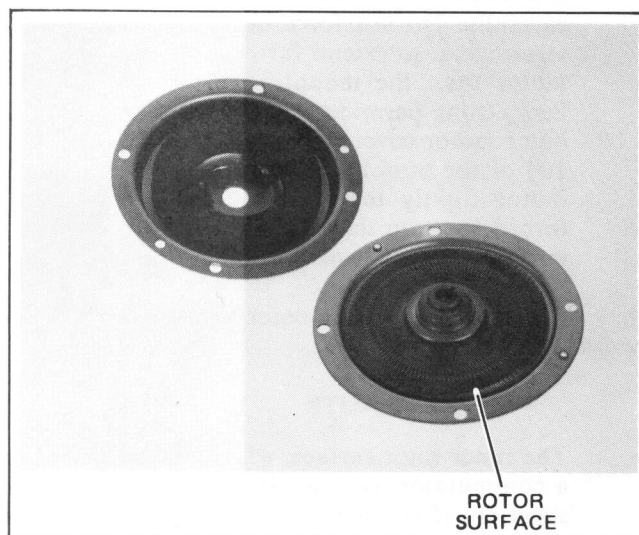

Figure 5-43. Reel Motor Inner Rotor
- h. Completely lift off the outer motor cover (Figure 5-43).